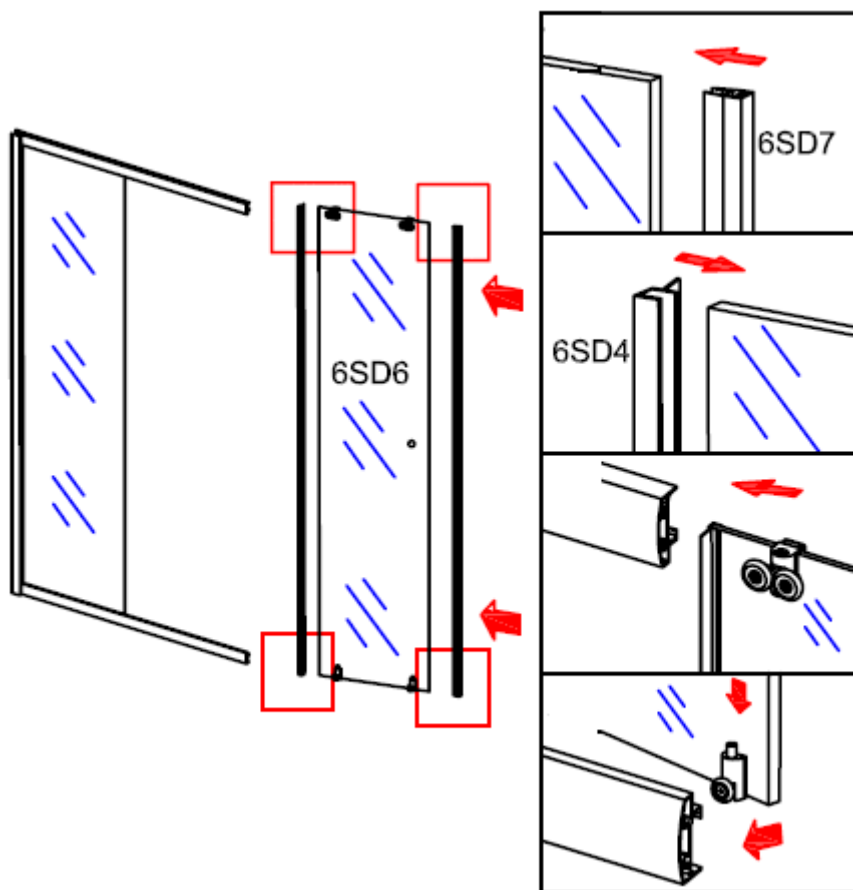

Figure 7
7. Click the strip(6SD4) and (6SD7) onto the moving panel.Hang the top double roller into the top rail and clip the bottom single roller into the bottom rail ,as showed in figure 7.